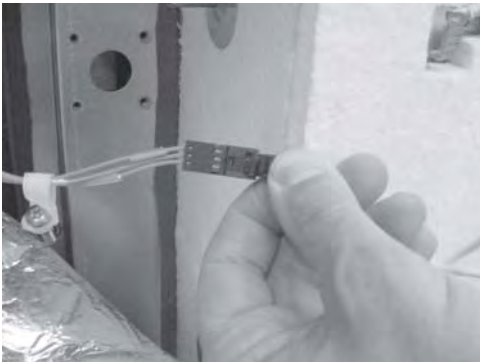

Figure 2-6
5. Pull wire connector apart (Figure 2-6).